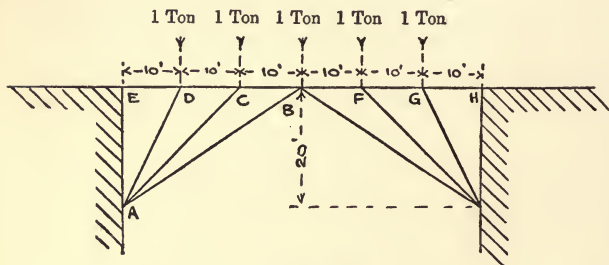

Fig. 4.
8. In the bridge shewn in Fig. 4 the horizontal member is made up of separate bars  $ED$ ,  $DC$ ,  $CB$ , etc., hinged together at their extremities. Use the method of sections to determine the stresses in the members  $AB$ ,  $BC$ . The tension stresses in the bars  $ED$  and  $GH$  may be taken as 2 tons. Draw the reciprocal figure for the whole framework and determine the horizontal and vertical components of the reaction at  $A$ .